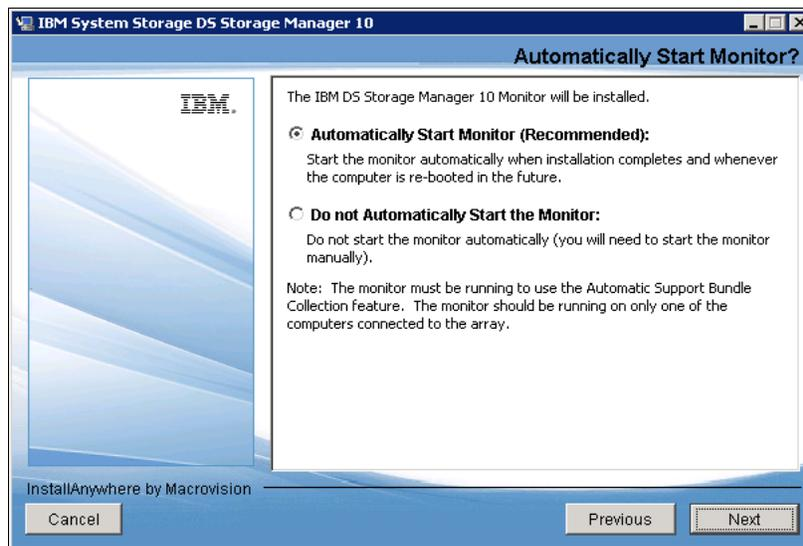

Figure 4-5 *InstallAnywhere: Automatically Start Monitor*
5. Decide whether you want to automatically start the Storage Manager Event Monitor, as shown in Figure 4-5, which depends on your particular management setup. In case there are several management machines, the Event Monitor must only run on one. If you want to use the Event Monitor with SNMP, you need to install the Microsoft SNMP service first, because the Event Monitor uses its functionality.